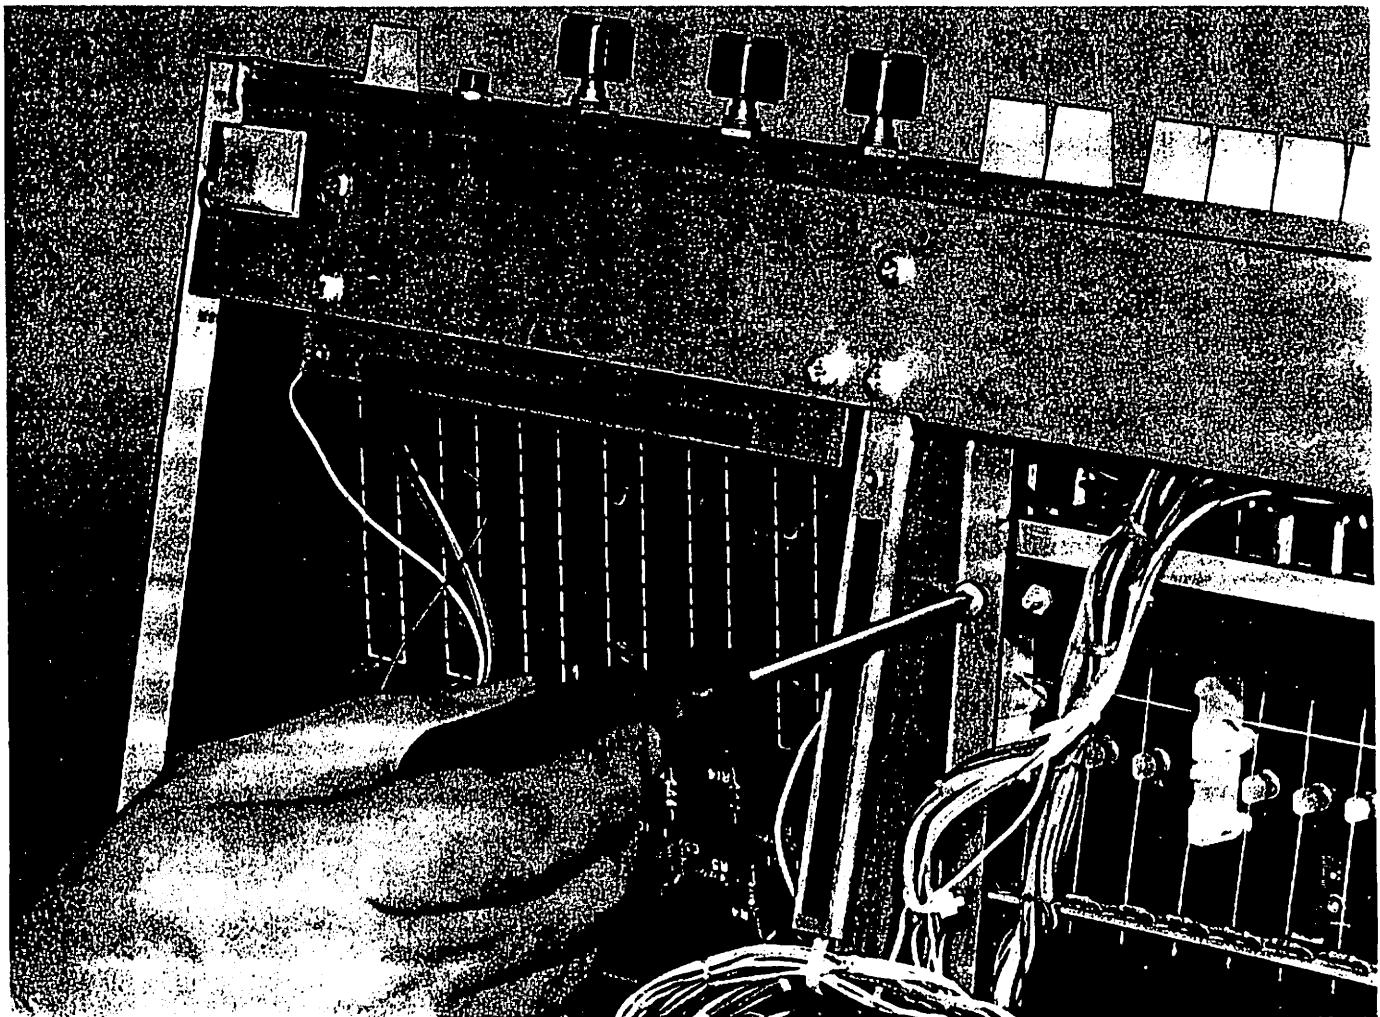
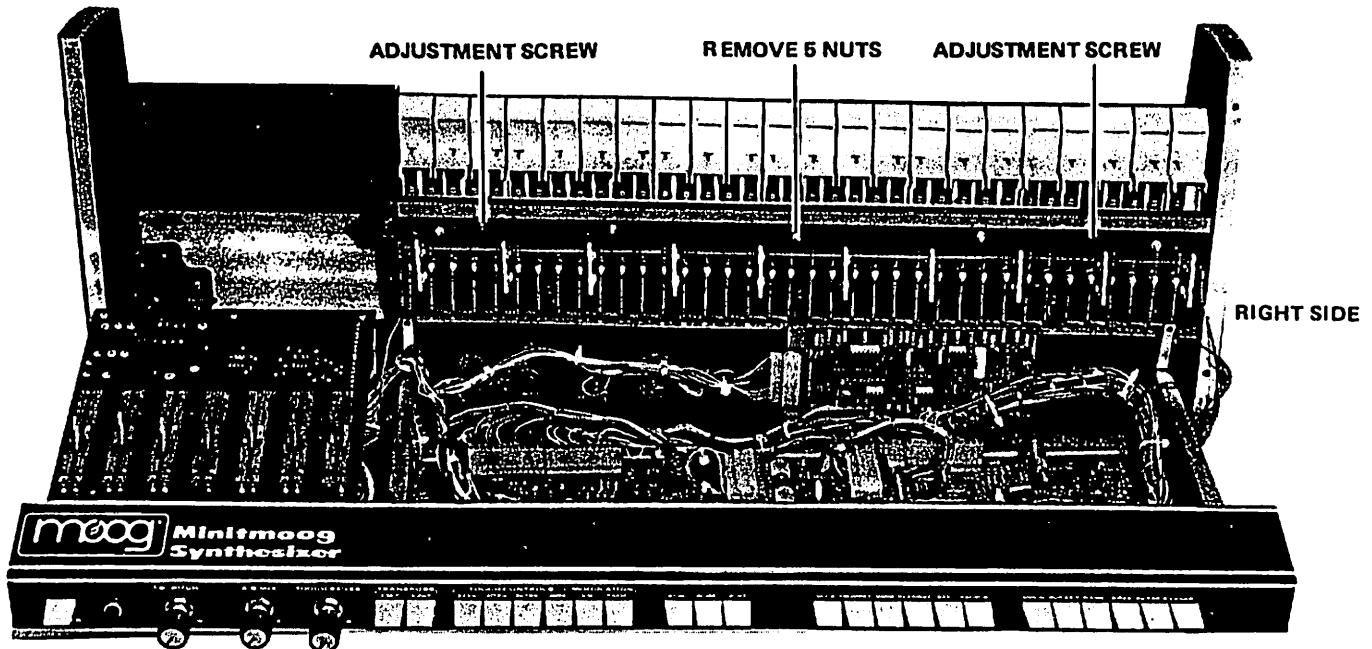

FIGURE 8-1 DISASSEMBLY OF MINITMOOG
FIGURE 8-2 MINITMOOG DISASSEMBLED
1. Remove the touch sensor from the unit by removing the bottom cover and unscrewing four screws (Figure 8-1) to disassemble the unit to the extent shown in Figure 8-2.
2. Remove the five nuts from the captive screws (Figure 8-2) securing the top support to the unit and remove the support.